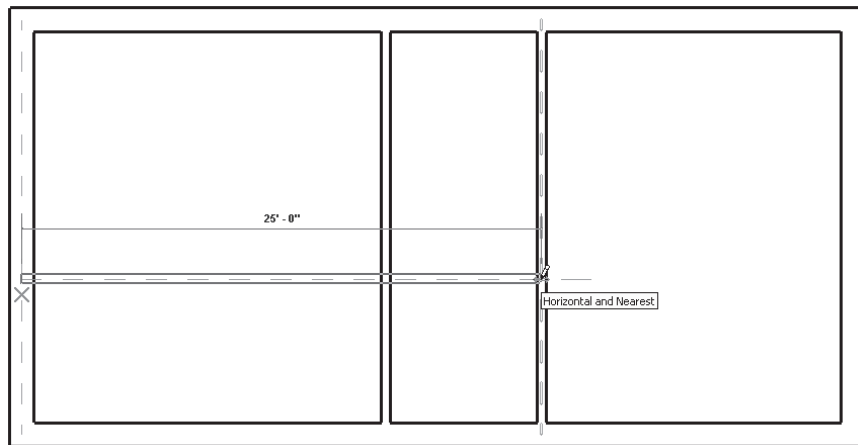

Figure 3-57 Sketching the third interior wall segment
4. Press SHIFT and move the cursor horizontally towards the right until it reaches the first vertical interior wall. When the **Horizontal and Nearest** object snap symbol appear, click to specify the location of the endpoint of the third interior wall, as shown in Figure 3-57. The wall segment is created.